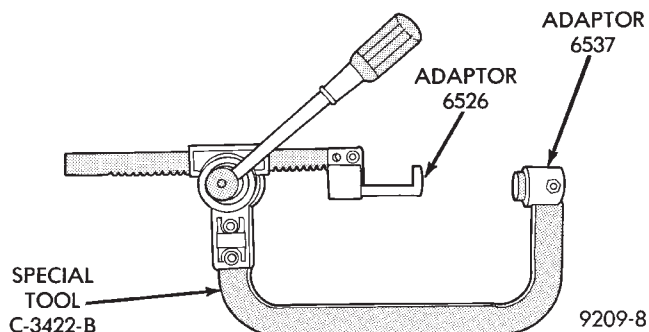

Fig. 11 Valve Spring Compressor
- (1) With cylinder head removed, compress valve springs using Valve Spring Compressor Tool C-3422-B with adaptors 6537 and 6526 (Fig. 11).
- (2) Remove valve retaining locks, valve spring retainers, valve stem seals and valve springs.
- (3) Before removing valves, **remove any burrs from valve stem lock grooves to prevent damage to the valve guides.** Identify valves to insure installation in original location.
(2) Inspect the remaining margin after the valves are refaced (Fig. 11). Exhaust valves with less than 1.07mm (3/64 inch) margin and intake valves with less than 1.06mm (3/64 inch) margin should be discarded.
(3) When refacing valve seats, it is important that the correct size valve guide pilot be used for reseating stones. A true and complete surface must be obtained.
(4) Measure the concentricity of valve seat using a valve seat dial indicator. Total runout should not exceed. 0.1 mm (.004 inch) (total indicator reading).
(5) Inspect the valve seat with Prussian blue to determine where the valve contacts the seat. To do this, coat valve seat **LIGHTLY** with Prussian blue then set valve in place. Rotate the valve with light pressure. If the blue is transferred to the center of valve face, contact is satisfactory. If the blue is transferred to top edge of the valve face, lower valve seat with a 15 degrees stone. If the blue is transferred to the bottom edge of valve face raise valve seat with a 65 degrees stone.